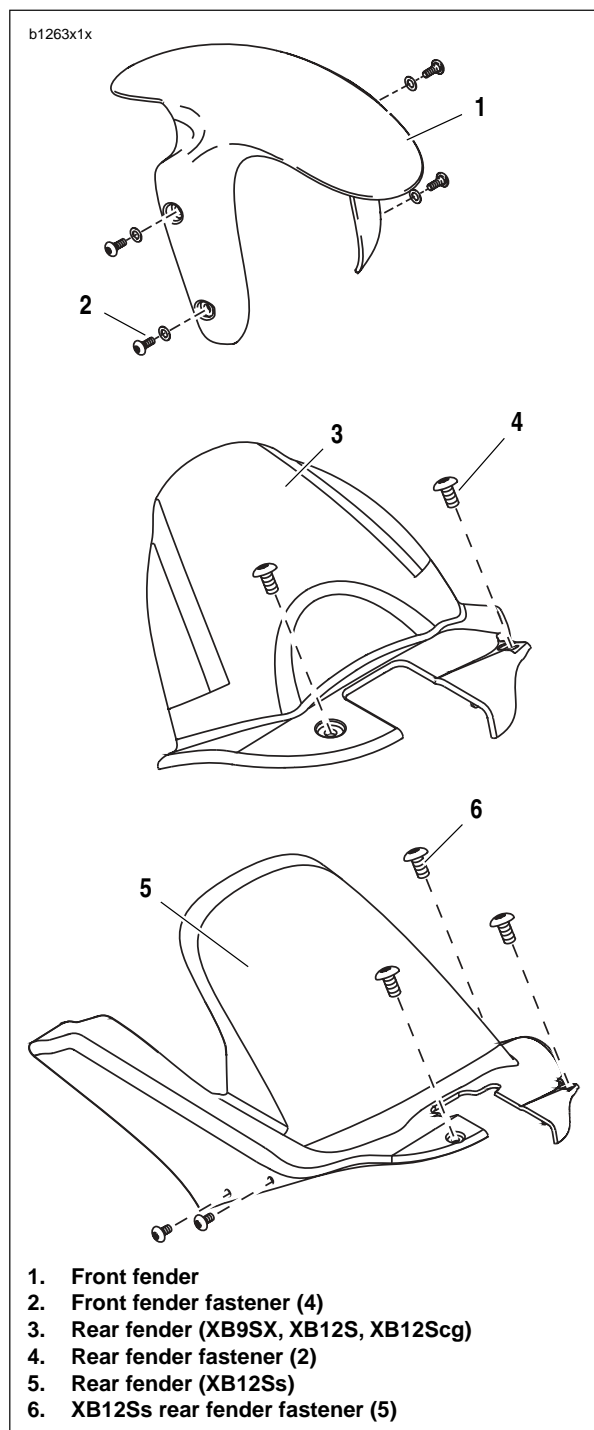

Figure 2-120. Front and Rear Fender
1. See Figure 2-120. Remove fasteners and washers (2) securing the front fender (1) to front forks.
2. Carefully remove front fender (1).
1. See Figure 2-120. Align front fender (1) to fender mounts on front forks.
2. Install front fender (1) with fasteners and washers (2), apply **LOCTITE 271** and tighten to **36-48 in-lbs** (4-5.4 Nm).
1. See Figure 2-120.
- a. **For XB9SX, XB12S, and XB12Scg:** Remove fasteners (4) securing the rear fender (3) to swingarm.
- b. **For XB12Ss:** Remove fender fasteners (6).
1. See Figure 2-120. Align rear fender to the swingarm.
2. Install rear fender with fasteners (6).